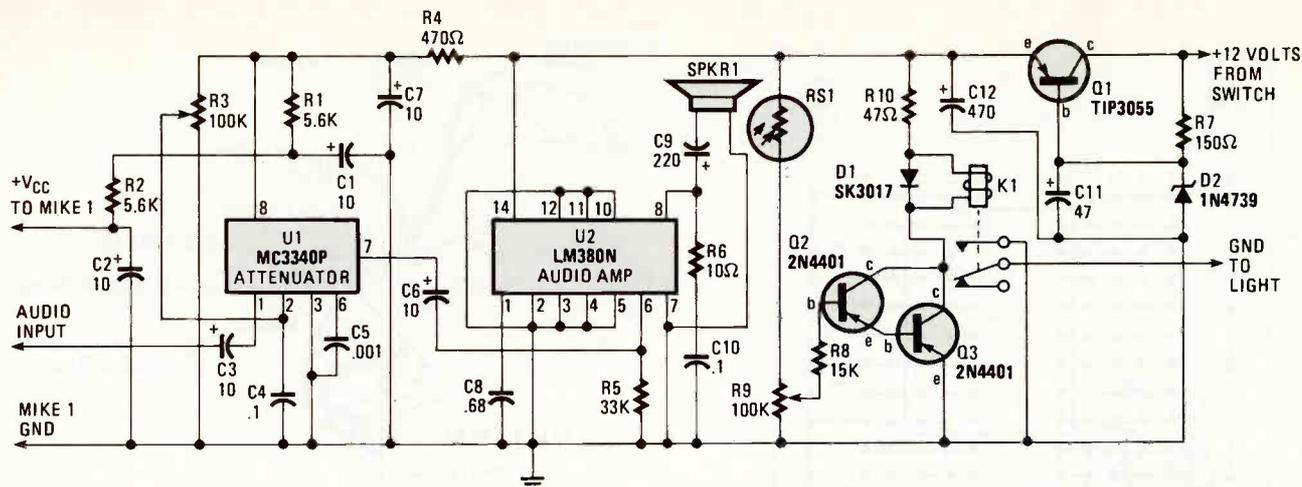

Fig. 4—Note that three wires run to the condenser mike in the remote circuit. That is because the mike requires external power to function properly.
To help you get the calibrations inside the ballpark, a full-size calibration template for R22 is provided in Fig. 4. Either trace the template or make a photocopy.
**Fig. 4—Although you should determine your own calibration for various charging currents, this scale will put you well inside the ballpark if you use a linear potentiometer for resistor R22.**
The audio pickup and amplifier consists of MIKE1, U1, U2, and their associated components (see Fig. 4). MIKE1 is an electret condenser microphone. The unit specified comes with all coax and leads already attached. It requires a well-filtered DC voltage of a nominal 4.5 volts. That is provided by R1, R2, C1, and C2. The audio output of the mike element is coupled to U1 via C3. U1 is a variable attenuator that is controlled by a DC voltage applied to pin 2. As constructed, that control voltage is taken from a board-mounted, trimmer potentiometer (R3), which is set at installation time.